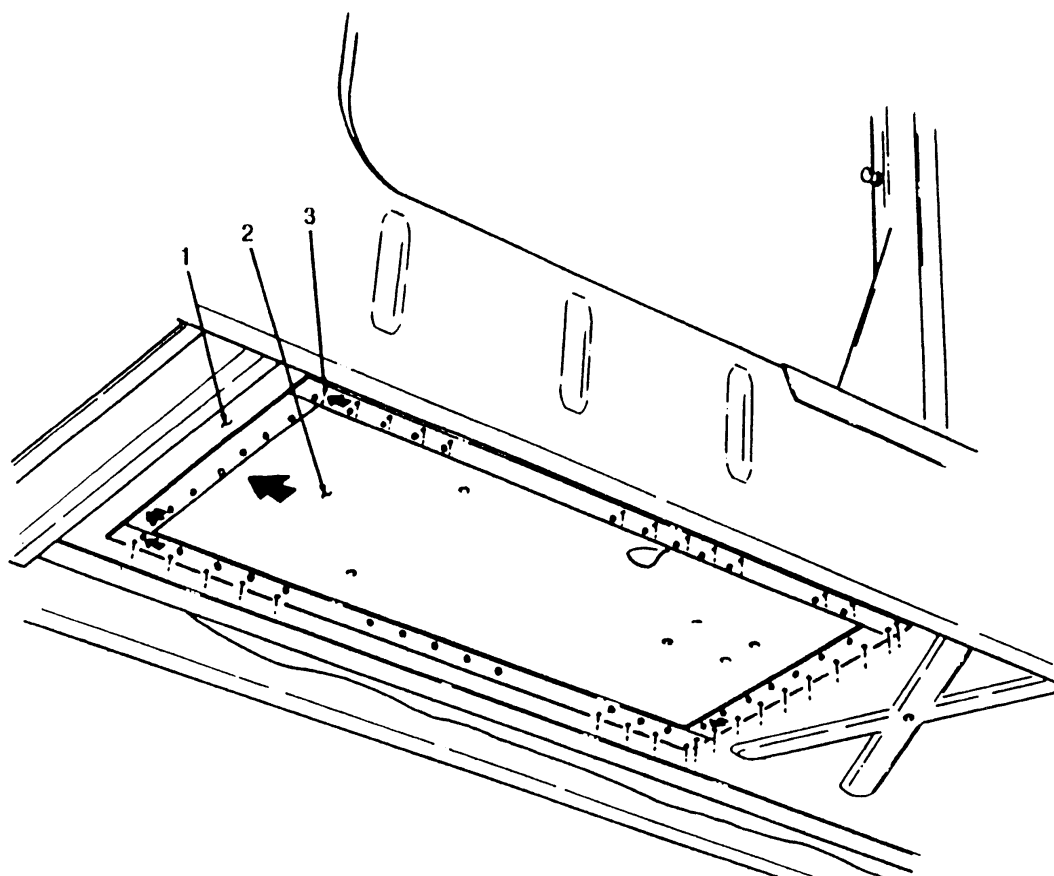
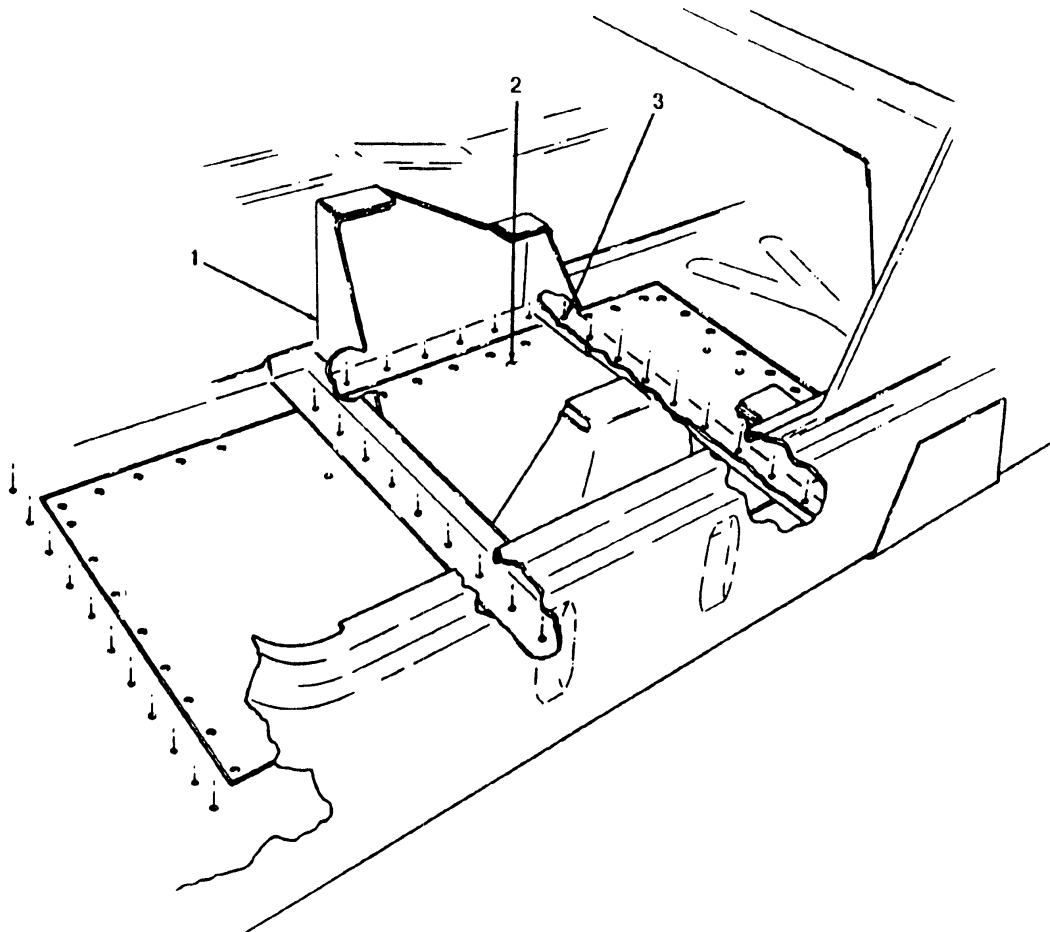
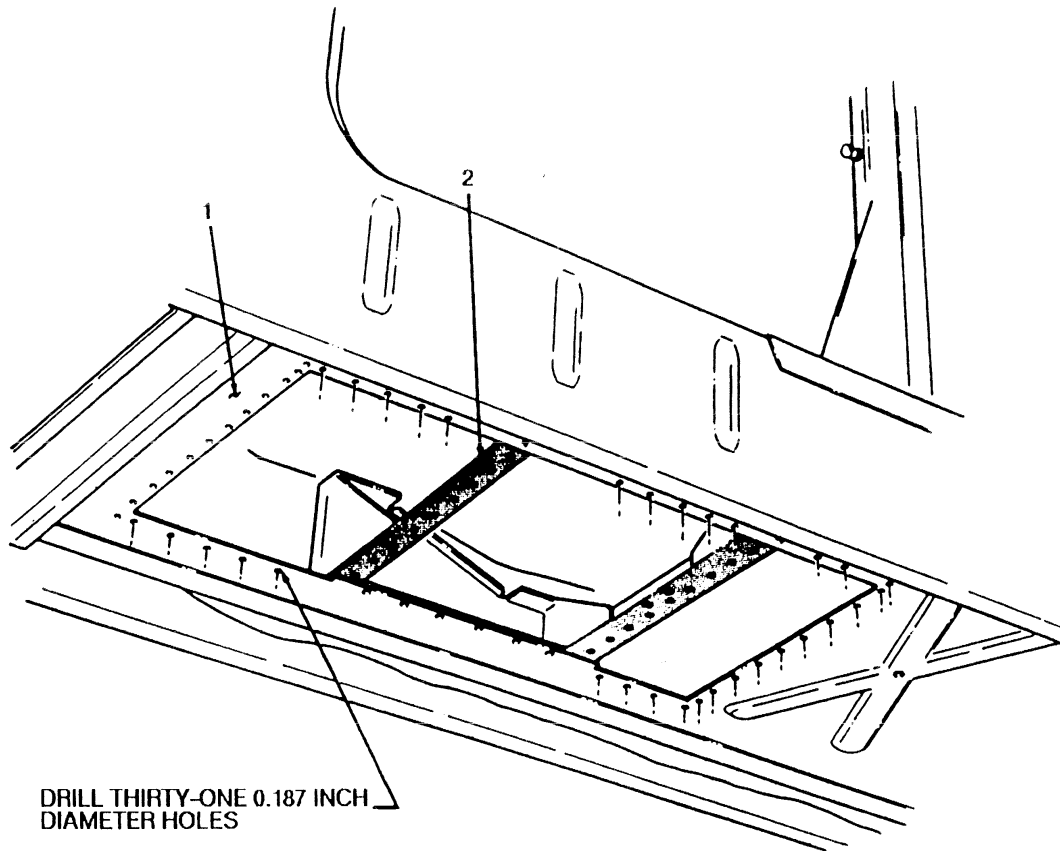

FIGURE 3-52
FIGURE 3-53
FIGURE 3-54
2. Position insert panel (2) to underside of left front floor panel (1) with the arrow facing down and toward front of vehicle. (see figure 3-52)
3. Using left front seat support (1) as a template, mark twenty-four hole locations (3) onto insert panel (2). (see figure 3-53)
4. Using left front floor panel (1) as a template, mark eleven hole locations (3) onto insert panel (2).
5. Using insert panel (2) as a template, mark thirty-one hole locations (3) onto underside of left front floor panel (1). (see figure 3-52)
6. Remove insert panel (2).
7. Drill thirty-one 0.187-inch diameter holes marked in step 5 in underside of left front floor panel (1). (see figure 3-54)
4. Apply NSN 8030-01-154-0031 Depends No-Mix (Part 1 Spray) to area surfaces shaded on underside of left front seat support (2). (see figure 3-54)